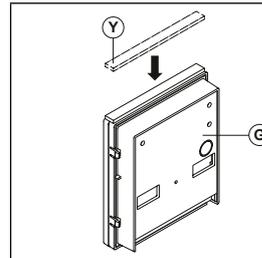

Fig. 3
Apply the (Y) seal as shown in **Fig. 3**.
⚠ In order to prevent water ingress we highly recommend using a silicon sealant between the wall and the back box **(C) ON THE LEFT, TOP AND RIGHT SIDES ONLY AND AROUND ALL HOLES **(D)**. DON'T USE SILICON SEALANT ON THE BOTTOM SIDE OF THE BACK BOX (Fig.3);**